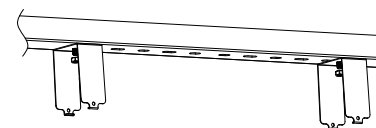

Figure 6
- Step1. Mount the bracket on the rail or ceiling; (Figure 6)